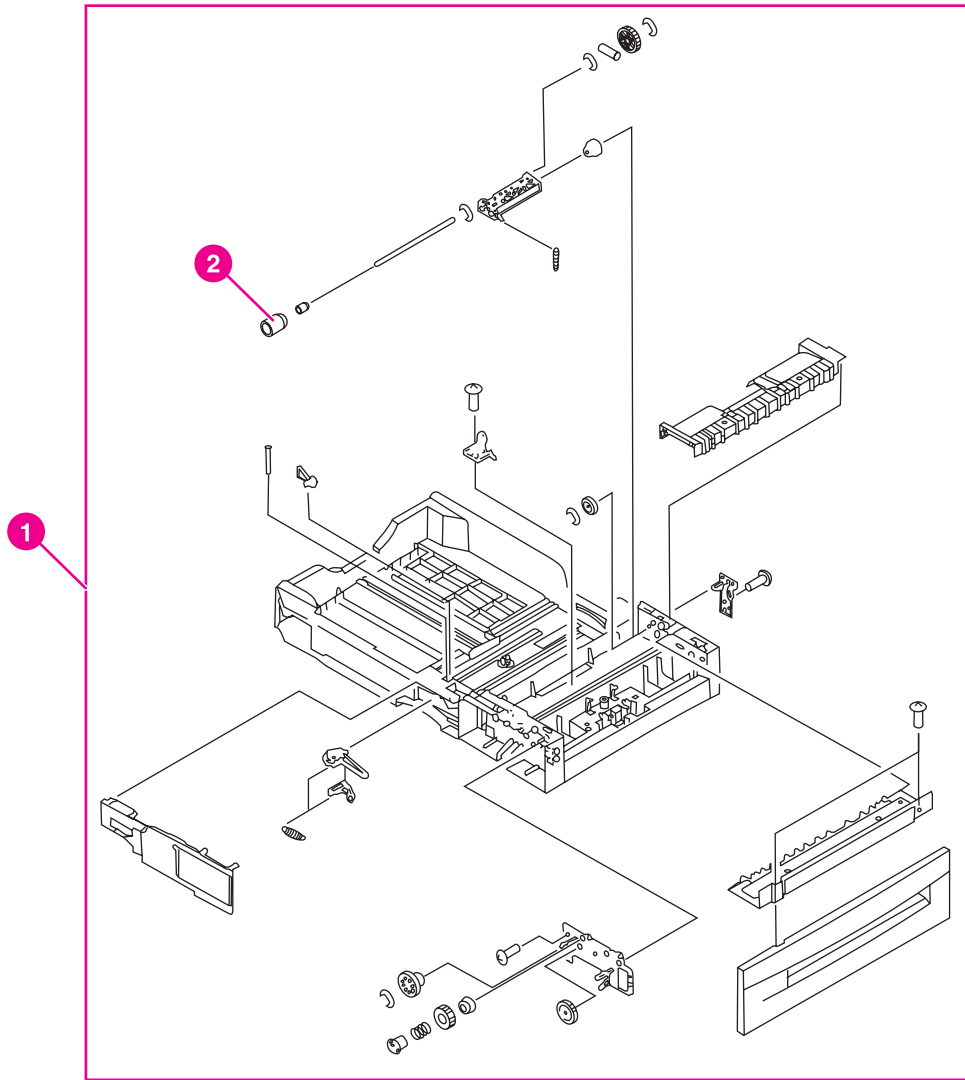

Figure 8-30. 500-sheet paper feeder cassette (2 of 2)
Solenoid and clutch lists parts shown in Figure 8-29. 500-sheet paper feeder cassette \(1 of 2\) and Figure 8-30. 500-sheet paper feeder cassette \(2 of 2\). If you order a replacement cassette (item 1), you will receive all parts shown in both figures.